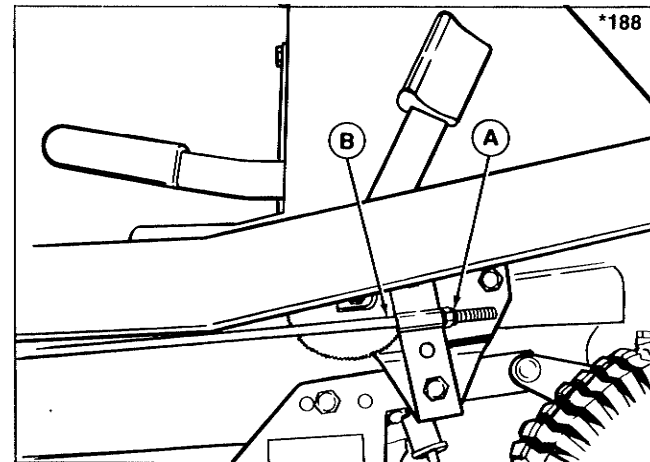

Figure 13. Clutch-Brake Adjustment
1. Press the pedal down as far as it will go (use normal braking force). There should be 1/4 inch to 1/2 inch clearance between the brake pedal and the front edge of the slot (see figure 12). If not, adjust the locknut (A, figure 13) by turning with a wrench. Move the locknut toward the rear to increase clearance or toward front to decrease clearance. Press the pedal down to recheck clearance. When correct, go on to step 2.